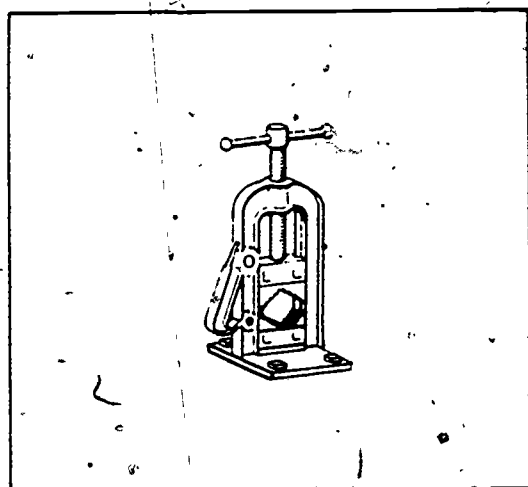
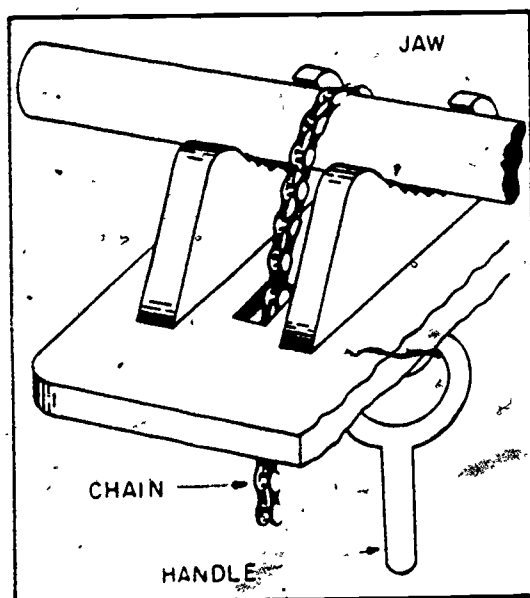

Figure 3-28. Quick-release pipe vise.
Figure 3-29. Chain vise.
**Pipe vises.** There are several types of vises that the plumber may use when cutting or threading pipe. Figure 3-28 illustrates a quick-release type that can be mounted either on a shop bench or on portable legs and carried to the job. Figure 3-29 shows a chain-type vise, which grips the pipe by a chain arrangement.